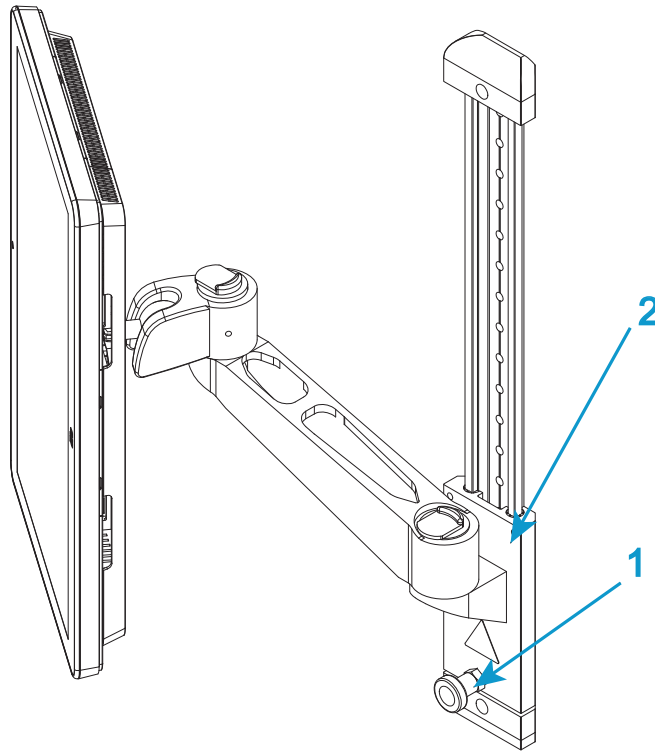

Figure 11. Height adjustment
1. You can adjust the height of the Bluehill[®] Operator Dashboard for the comfort of different operators. Loosen the lock (1 in Figure 11 on page 48) and slide the arm mounting (2 in Figure 11 on page 48) to the desired height. Re-tighten the lock.